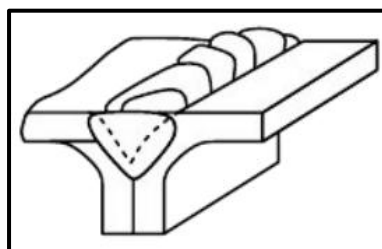

FIGURE 5.6
- 5.6 Sketch the weld symbol for the welded joint in FIGURE 5.6.